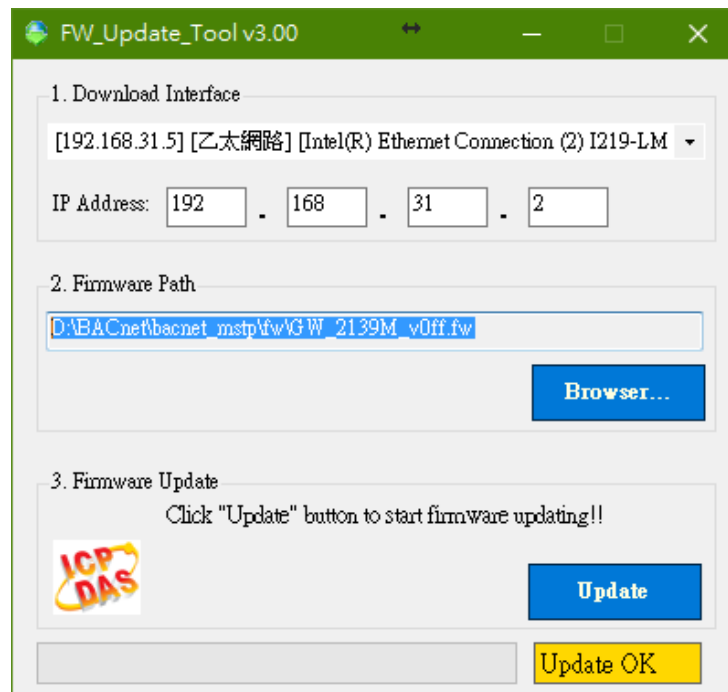

Figure 12 FW\_Update\_Tool firmware update steps
3) Execute “FW\_Update\_Tool.exe” with the administrator privileges (👤) and follow the steps as Figure 12: